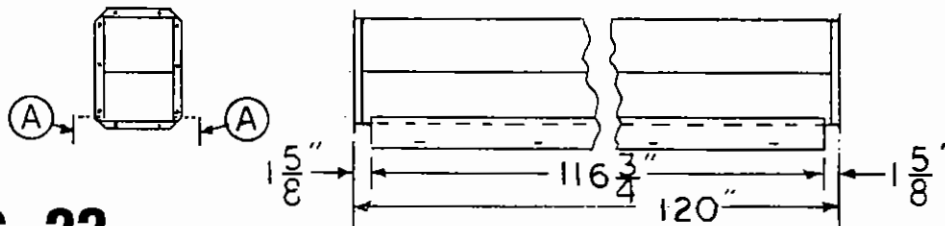

FIG. 22
1. If your 10' trunk sections (solid or bolt-on cover types) do not have the mounting plates (A) (4" x 116-3/4" long) attached, see Figure 22.
2. Weld mounting plates to side of trunk sections with 1/8" fillet weld (1-1/2" long) centered on every eight inches. Bottom of trunk section should be welded the same way with welds centered in between welds on sides. **NOTE: Location of mounting plates in Figure 22.** Keep mounting plates (with holes down) 3-1/2" below bottom of trunk sections and centered between end flanges. Paint welds with a good grade of exterior type paint.